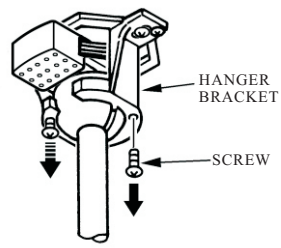

FIG.9
3. Remove one of screws and loosen the other screw from the hanger bracket. (See fig.9)